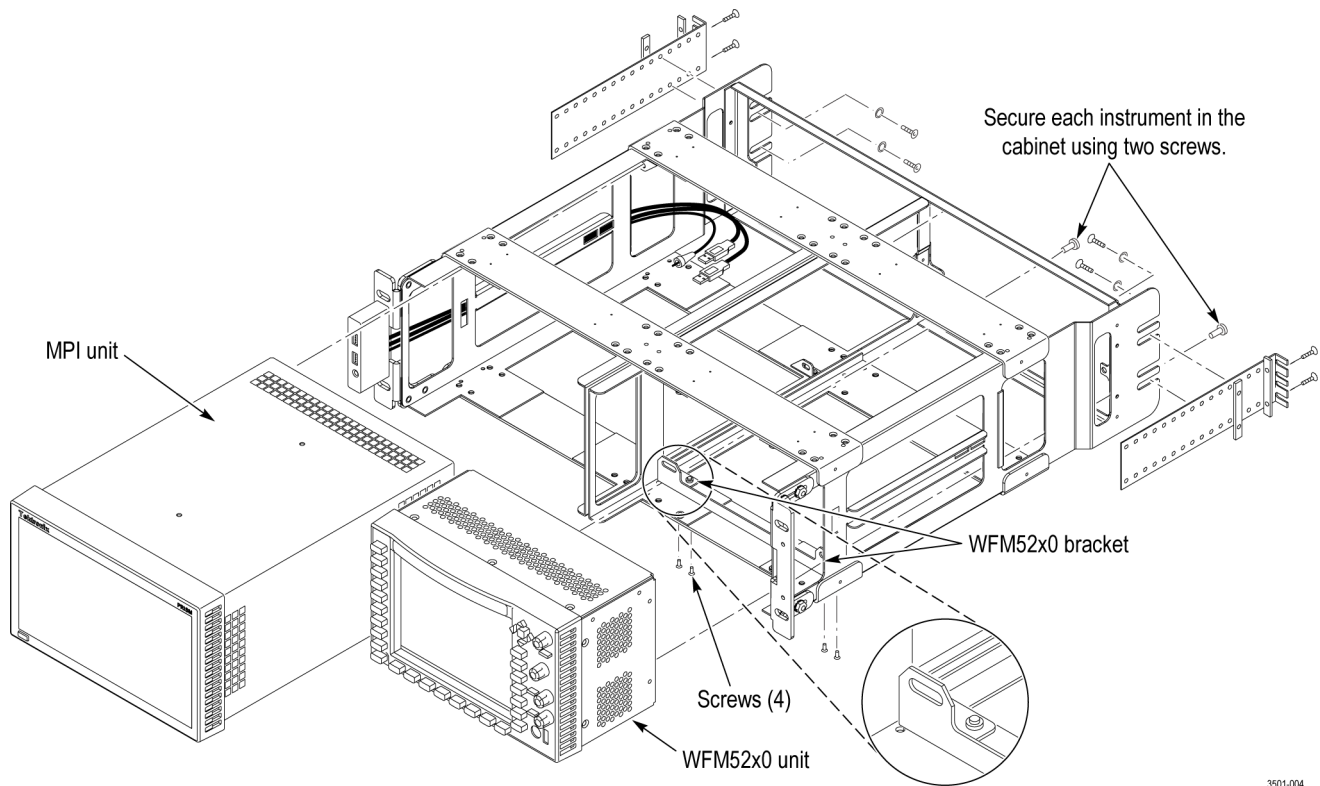
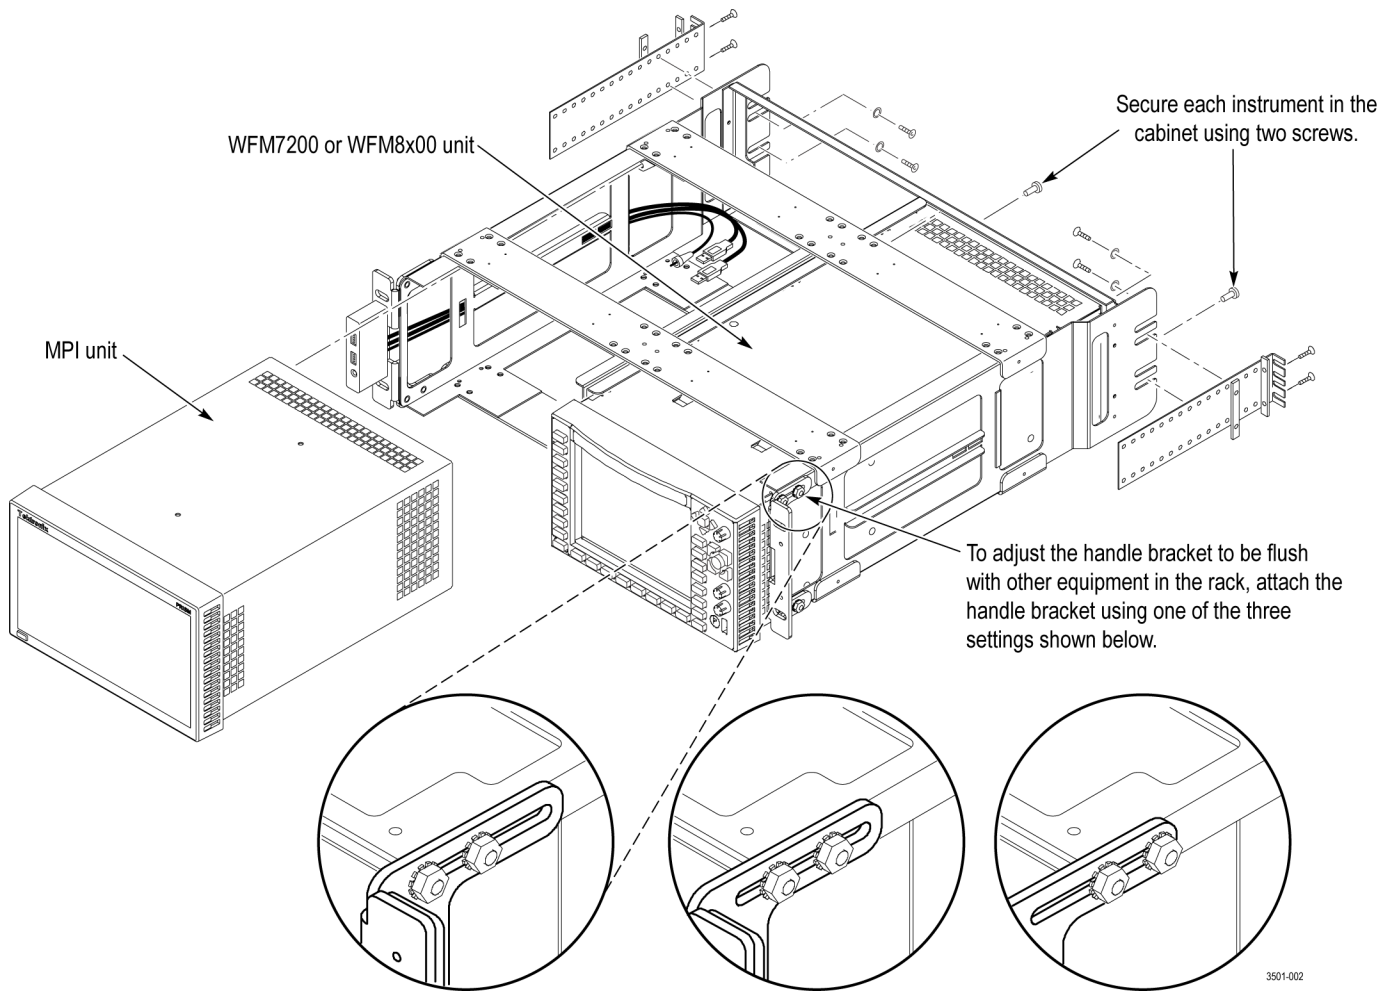
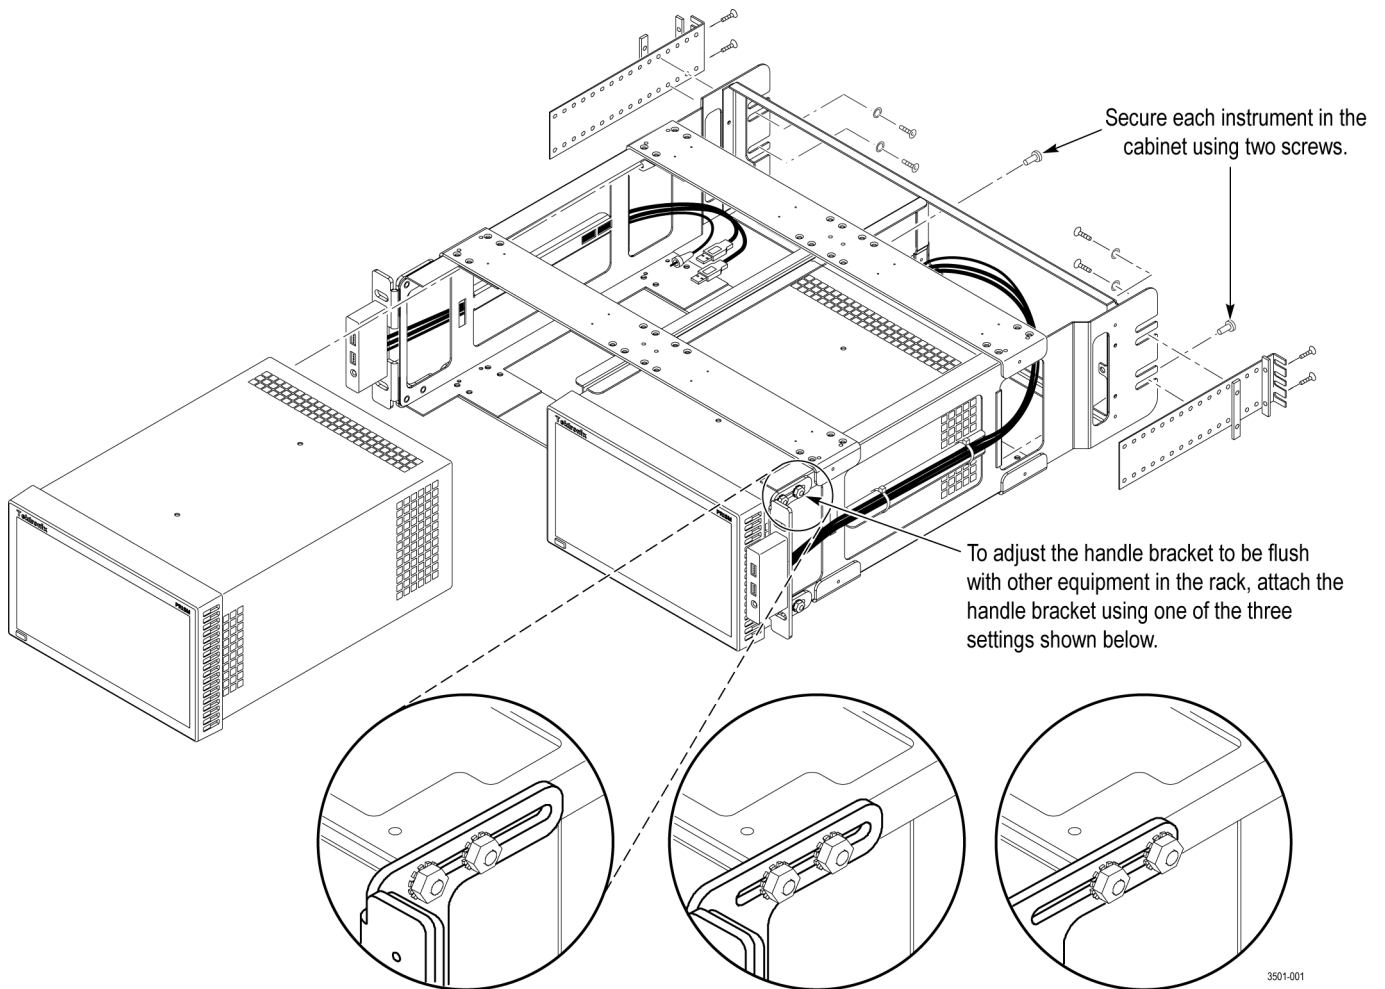

Figure 2: Installing one MPI monitor and one WFM52x0 waveform monitor in the MPI-RACK-MW dual rack cabinet
Figure 3: Installing one MPI monitor and one WFM7200 or WFM8x00 waveform monitor in the MPI-RACK-MW dual rack cabinet
Figure 4: Installing two MPI monitors in the MPI-RACK-MM dual rack cabinet
1. Position the dual rack cabinet so that the headphone jack(s) on the front of the cabinet is on the bottom. (See Figure 2.)
- a. Install the WFM52x0 bracket (item 8 in Table 4) in the right side of the cabinet as shown. (See Figure 2.)
- b. Use a screwdriver with a TORX T-10 tip to attach the WFM52x0 bracket to the cabinet with four 6-32 X 0.312 screws (item 9 in Table 4).
3. If desired, you can adjust the position of the handle brackets to mount the adapter flush with other equipment in the rack. To do this, loosen the nuts that attach the handle brackets to the rack adapter, adjust the position of the handle brackets as desired, and then tighten the nuts securely. (See Figure 3.)
4. Use a screwdriver with a PosiDriv tip to attach the rack adapter assembly to the front frame of the rack with four 10-32 X 0.750 screws (item 6 in Table 4) and four shoulder washers (item 5 in Table 4).
5. Use a screwdriver with a Phillips tip to install one guide bracket (item 7 in Table 4) to one side of the rear frame of the rack with two 10-32 X 0.625 screws (item 2 in Table 4) and one nut bar (item 1 in Table 4) as shown. (See Figure 2.)
6. Use a screwdriver with a Phillips tip to attach the guide bracket to the cabinet with two 10-32 X 0.625 screws (item 2 in Table 4), two washers (item 4 in Table 4) and one nut bar (item 1 in Table 4). Use the holes in the bracket that will accommodate the depth of the instrument rack frame being used. Leave the screws loose.
1. Install an MPI unit in the dual rack cabinet: (See Figure 2.) (See Figure 3.) (See Figure 4.)
- a. Install a Tektronix WFM52x0, WFM7200, or WFM8x00 waveform monitor in the right slot of the dual rack cabinet. (See Figure 2.) (See Figure 3.)
- b. Use a screwdriver with a TORX T-15 tip to secure the waveform monitor in the dual rack cabinet with two 10-32 X 0.625 screws (item 3 in Table 4). The screws attach to the right and left holes in the middle of the instrument chassis as viewed from the rear.